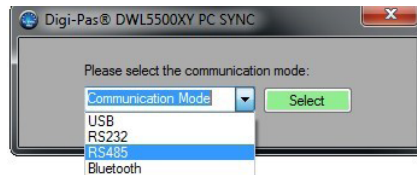

Figure 23. Shortcut of the DWL5`00XY PC SYNC
1. Assuming steps stated in 3.1 Configuration of Single Tilt Sensor Module with Converter and 4.1 Installation of the DWL5x00XY PC Sync Software have been done in this stage. Open PC SYNC software and select RS485 from the drop down menu as shown in Figure 23.